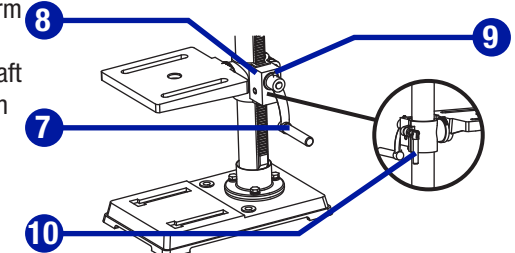

Fig. 5
- Insert the table support crank handle (7) into the worm gear shaft on the side of the table support (8). Make sure the set screw (9) is aligned on the flat of the shaft and as close to the table support as possible. Tighten the set screw (Fig. 5).
- Position the table in the same direction as the base, and tighten the column lock handle (10).